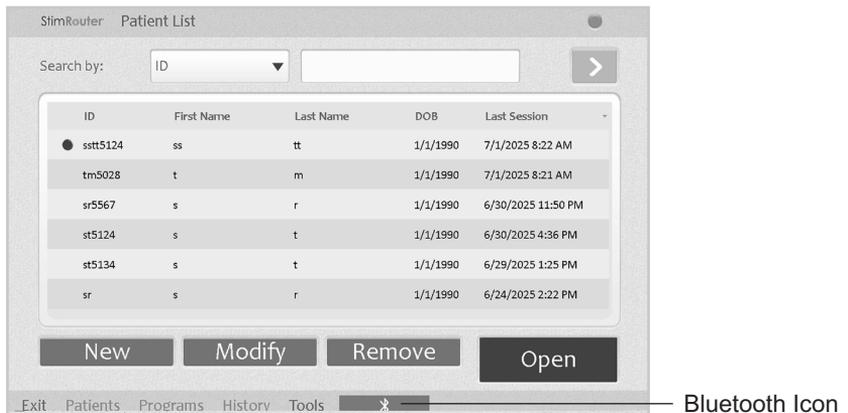

Figure 7-4: Bluetooth Icon on the Patient List screen.
3. Press the blue “Bluetooth” button on the bottom of the Patient List screen in the clinician programming software. The E-EFC and Clinician Programmer will connect. See Figure 7-4.